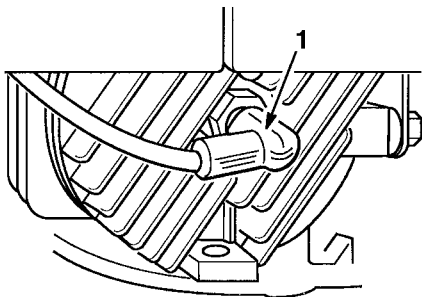

Figure 25
4. Install spark plug by hand, then torque to 180 in.-lbs. (15 ft.-lbs.) (20 N·m) (Fig. 25).
5. Reconnect spark plug wire when maintenance is completed (Fig. 25).
1. Disconnect spark plug wire (Fig. 25). Remove key from switch.
- Connect spark plug wire when maintenance is completed (Fig. 25).